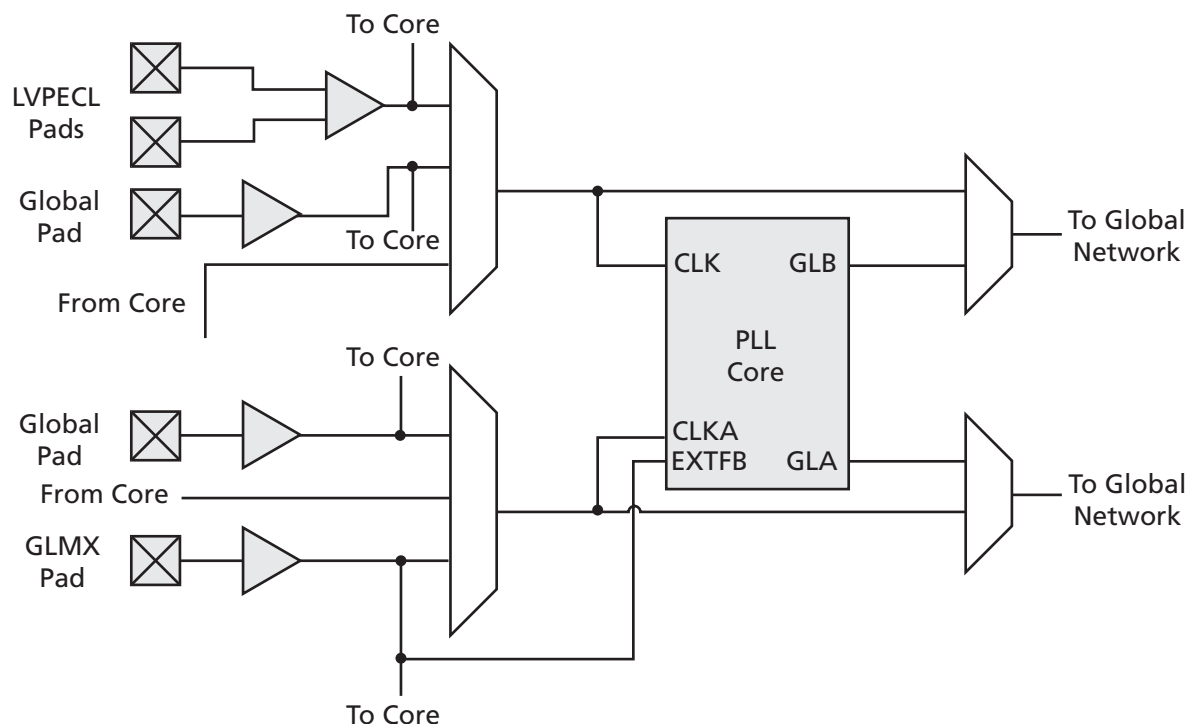
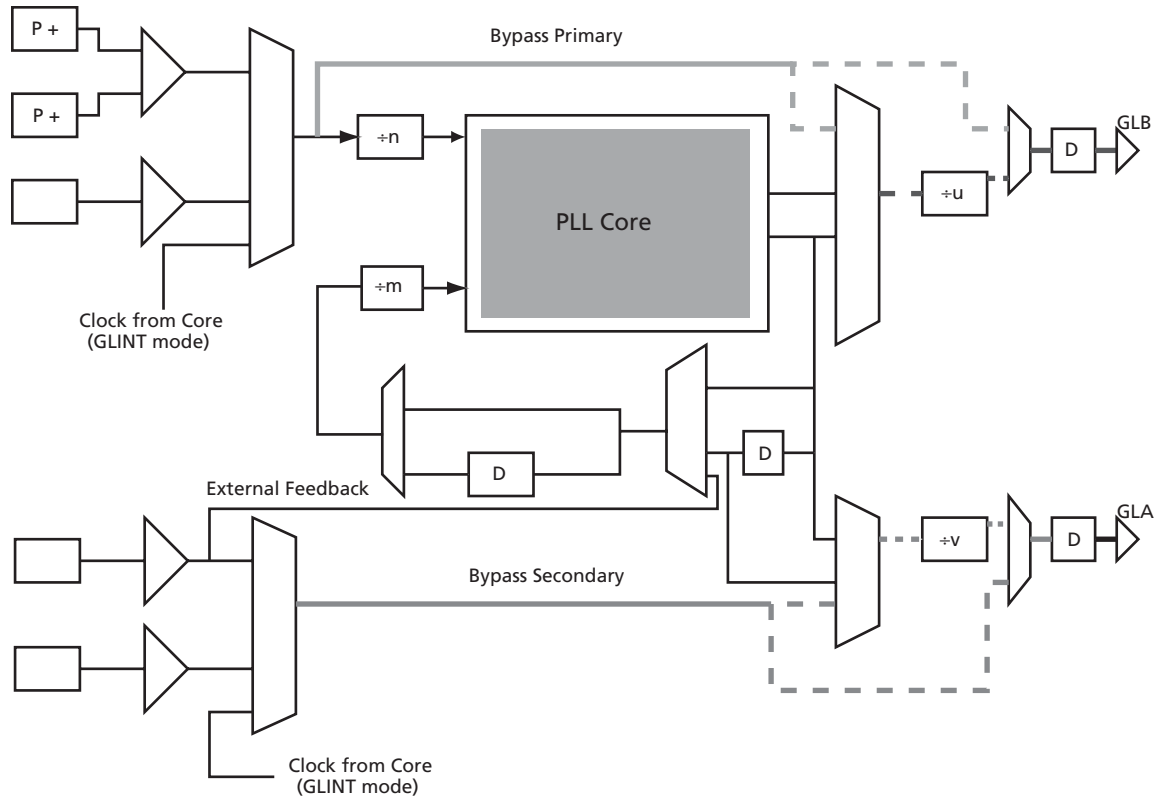

Figure 2 • External and Internal Interface to the ProASIC^{PLUS} Clock Conditioning Circuitry
Figure 5 • Detailed Schematic Drawing of the Bypass Modes
Two global multiplexed lines extend along each side of the chip to provide bidirectional access to the PLL on that side (neither MUX can be connected to the opposite side's PLL). Each global line has optional LVPECL input pads. The global lines may be driven by the LVPECL global input pad, the outputs from the PLL block, or both. Each global line can be driven by a different output from the PLL. Unused global pins can be configured as regular I/Os or left unconnected. They default to an input with pull-up. The two signals available to drive the global networks have the following options (Figure 2 on page 5):
Figure 2 on page 5 shows the clock inputs (excluding the external feedback input) to the PLL core. CLK is the primary input clock, while CLKA, the second input clock, is used as a reference clock for the secondary output clock (GLA) of the PLL core when the PLL is bypassed. The CLKA input clock is used only when the PLL is in bypass secondary mode. This is discussed in more detail in the “Bypass Modes” section on page 7.
As depicted in Figure 5, both input clocks can be independently divided, delayed, or simultaneously divided and delayed without going through the PLL core. A path of the bypass mode of GLB is marked as "Bypass Primary" with a thick line. Notice that the "÷n" divider is also bypassed and the divider "÷u" can be used in combination with the delay element. Similarly, the bypass mode of GLA is shown as "Bypass Secondary" and the divider "÷v" can be used in combination with the delay element downstream. Additionally, the secondary output (GLA) can have its own incoming reference clock as depicted in Figure 2 on page 5.
- STATASEL and STATBSEL indicate the multiplexer selection for CLKA and CLK inputs of the PLL. Refer to Figure 2 on page 5.